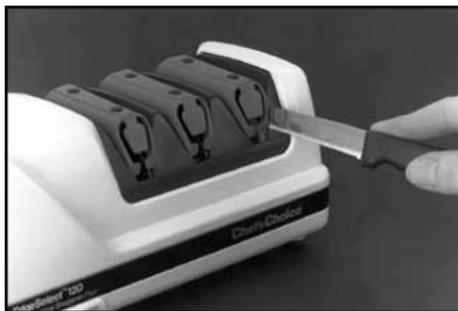

Figure 12. Sharpen serrated blades only in Stage 3. (See instructions).
Serrated blades of all types can be sharpened in the Chef'sChoice® Model 120. However, use **only** Stage 3 (Figure 12), which will sharpen the teeth of the serrations and develop micro blades along the edge of these teeth. Generally five (5) to ten (10) pairs of alternating pulls in Stage 3 will be adequate. If the knife is very dull, more pulls will be needed. If the knife edge has been severely damaged through use, make one fast pull (2-3 seconds for an 8" blade) in each of the right and